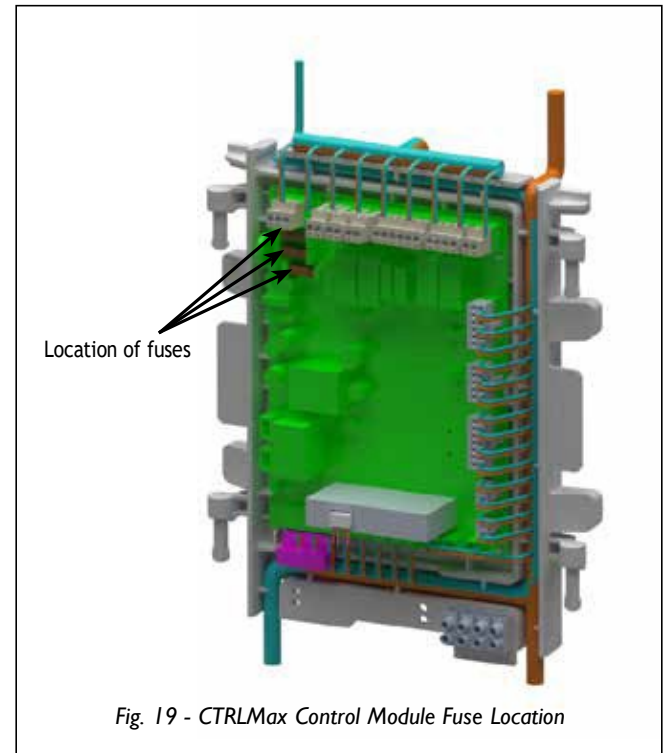

Fig. 19 - CTRLMax Control Module Fuse Location
- The CTRLMax control module contains 3 internal replaceable 5A fuses as shown in *Fig. 19 below*.